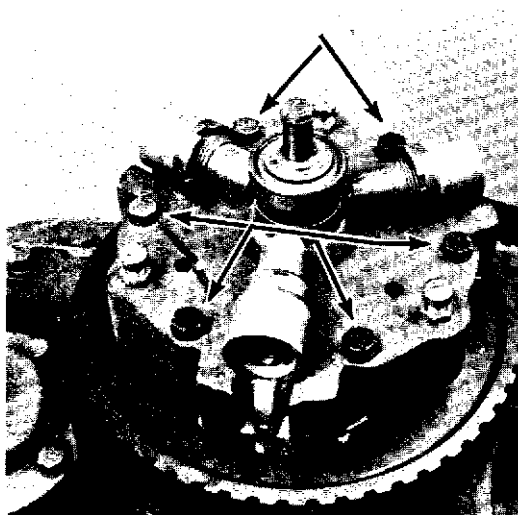

Fig. 9-21
- (8) Install the six hex bolts (Fig. 9-21).